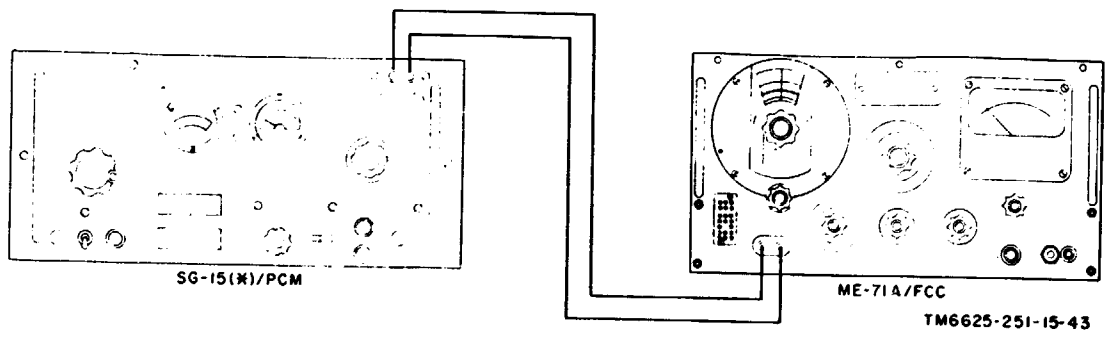

Figure 8-4. Harmonic content of output of SG-15(*)/PCM, test setup.
- b. *Test Connections and Conditions.* Connect the equipment as shown in figure 8-4.